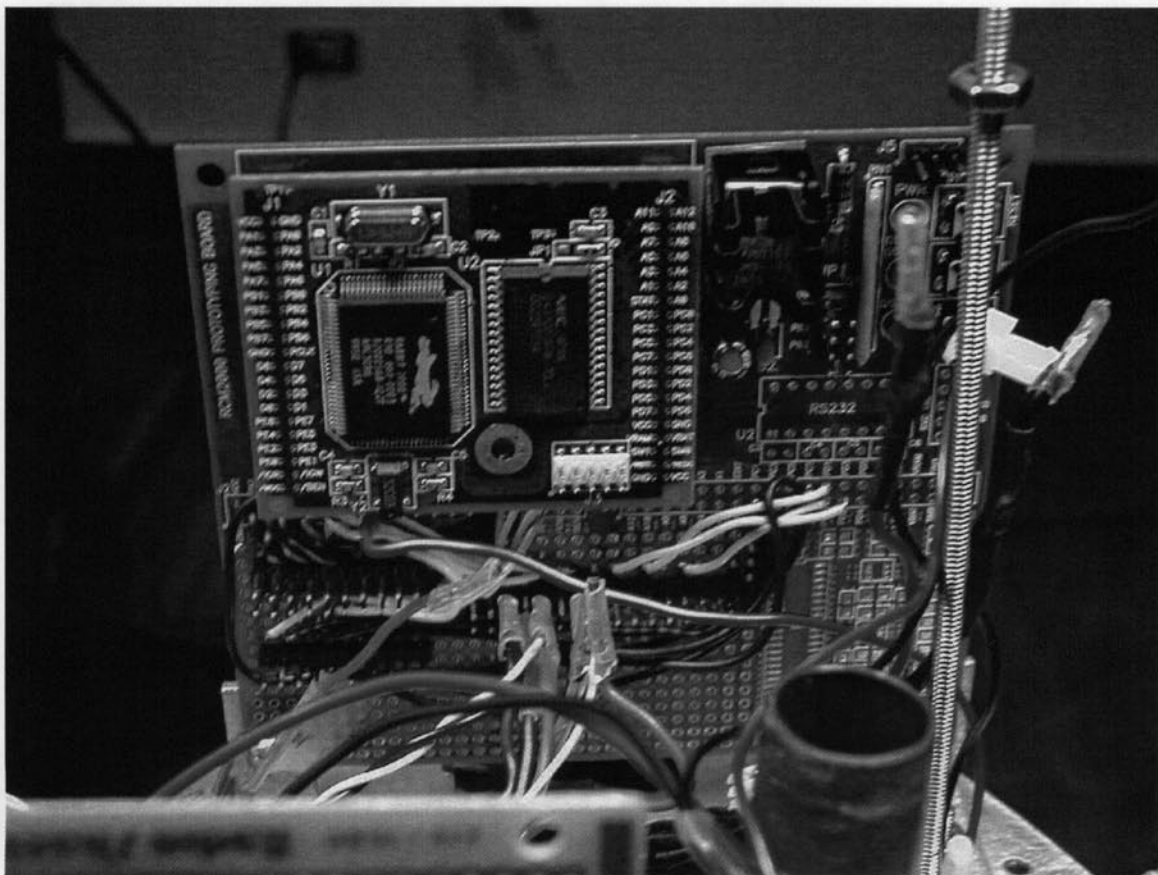

Fig. 1 – Rabbit Microcontroller
- The Rabbit Microprocessor includes a development kit, which compiles and loads user files to the board. The Rabbit Microprocessor can be seen in Fig. 1.